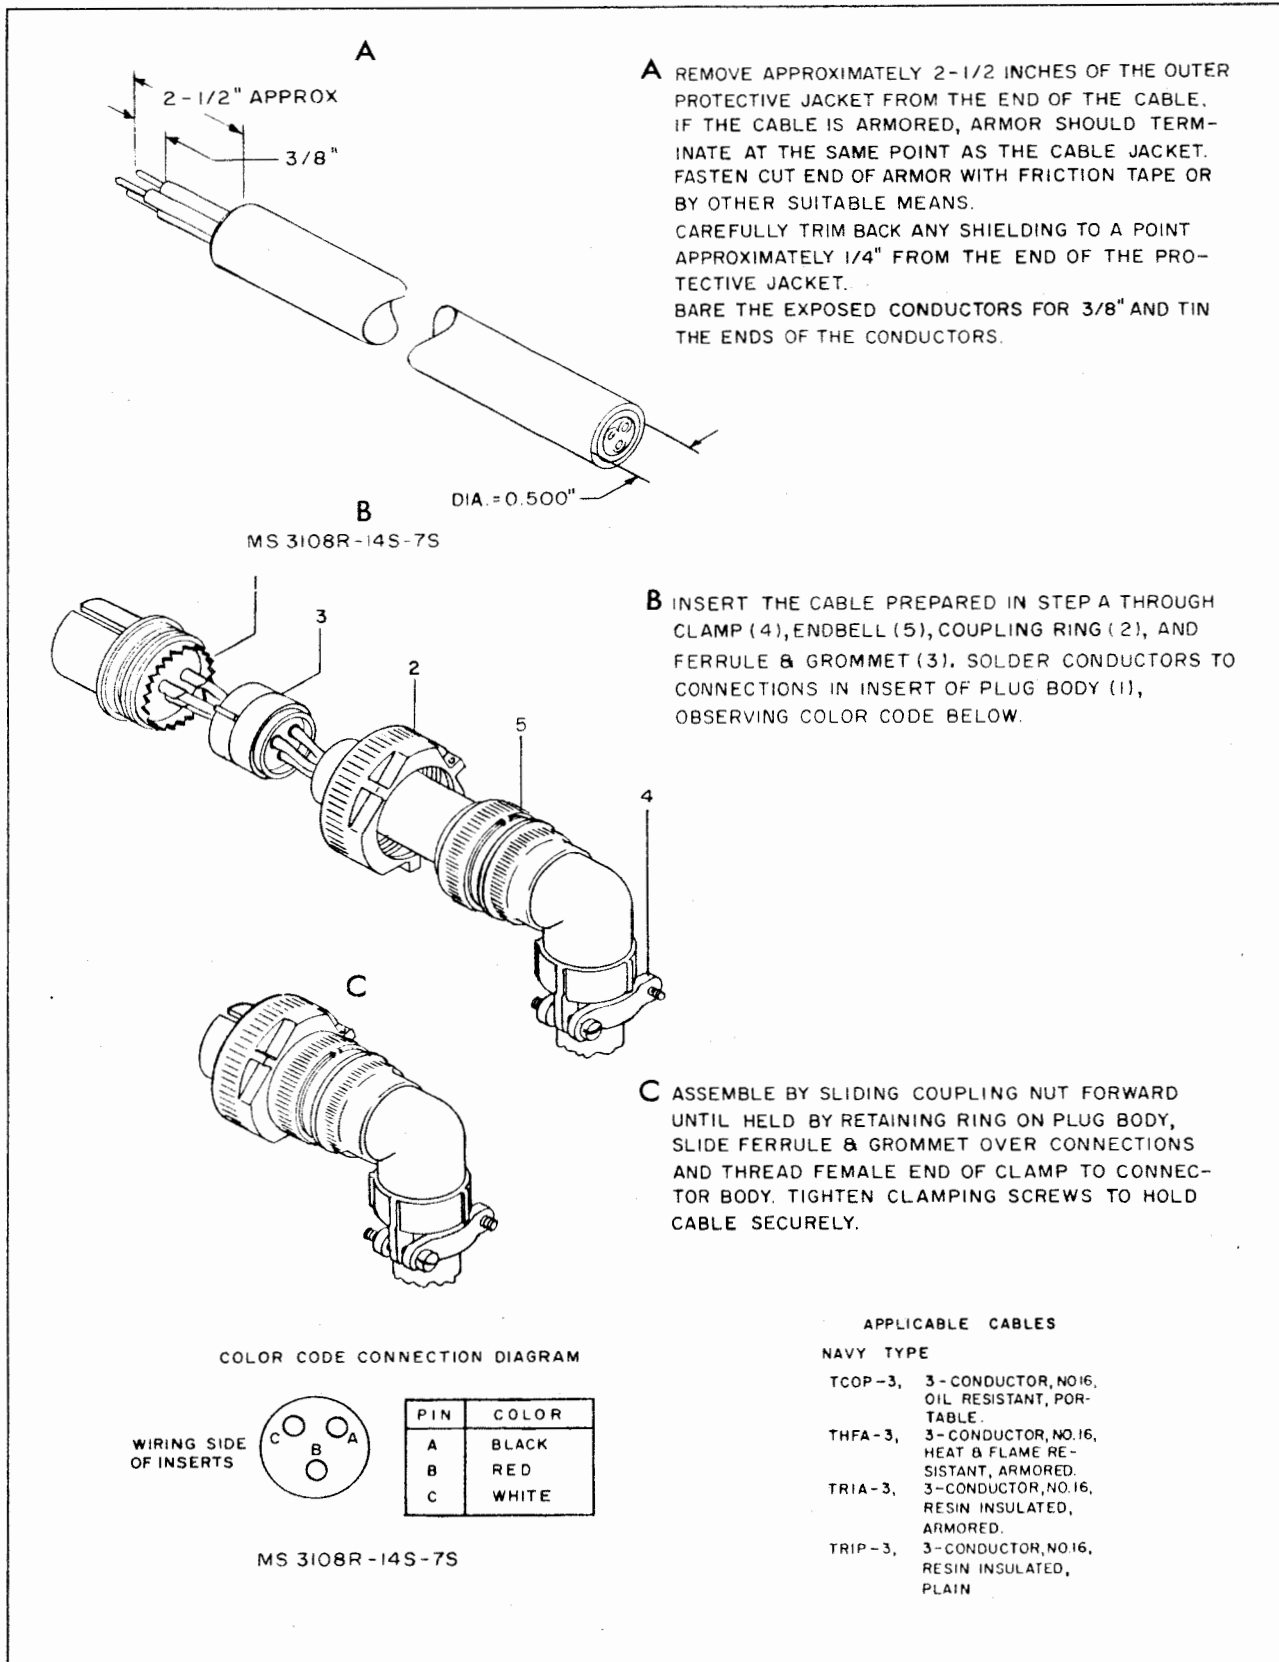
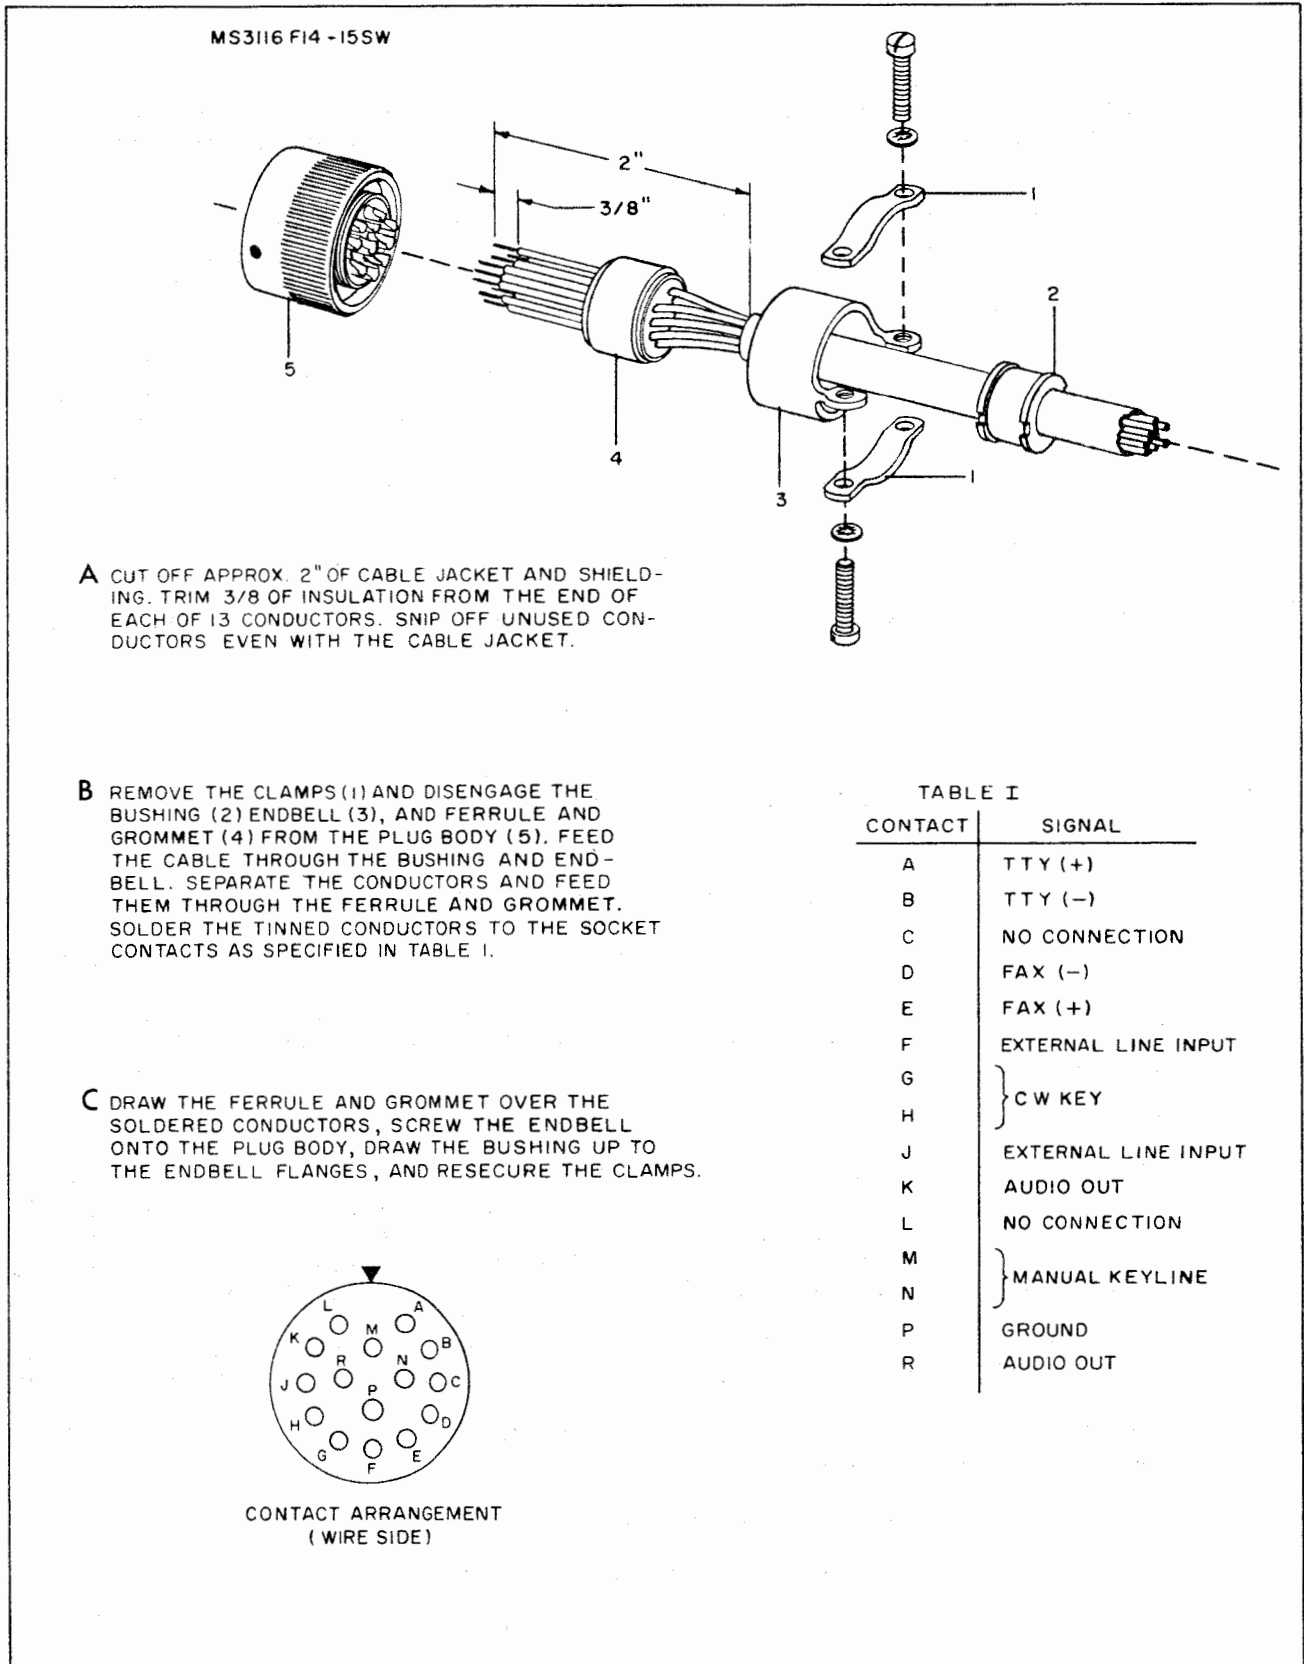

Figure 2-3. Primary Power Cable, Assembly Procedure
Figure 2-4. Data Cable, Assembly Procedure
(1) CABLE ASSEMBLY. - Figure 2-3 shows the method of assembling the ac primary power cable and figure 2-4, the keyer input cable.